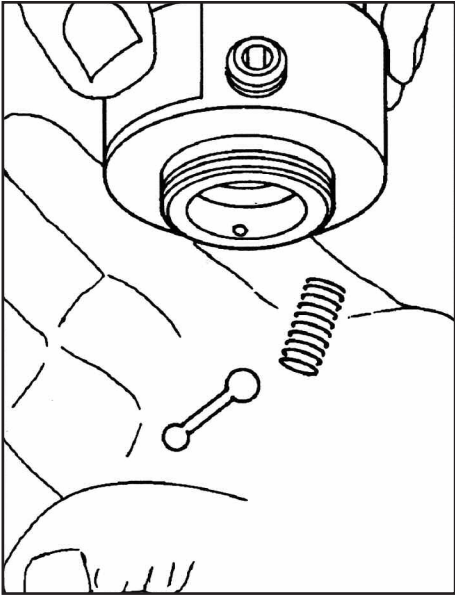

Figure 7
6. Lift out the pilot plug and exhaust spring. (Fig.7)